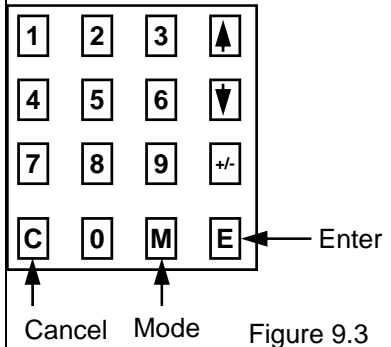

Figure 9.3
4. To disable Menu Code 9, press the - button on the keypad (See Figure 9-3) and press the **ENTER** button. The volume display returns to three dashes.